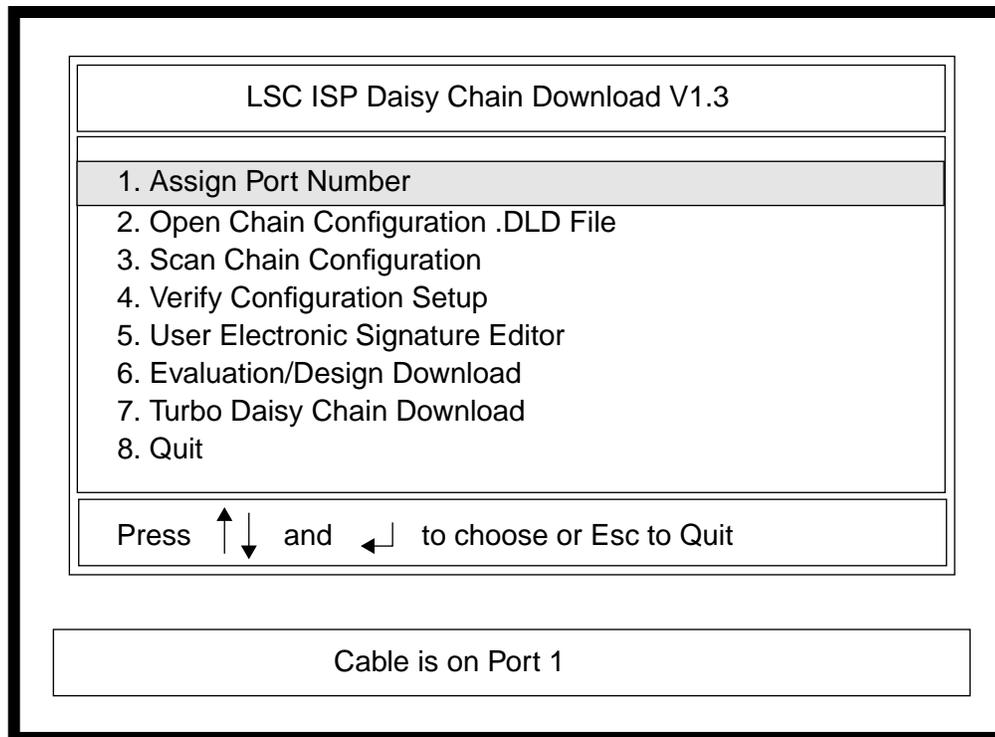

Figure 3-43. Assigning a Port Screen
1. Select **1** or **A** from the IDCD menu (Figure 3-43) and press **Enter**. The Message Display Area shows which port is active. Press **Enter** to return to the main menu.